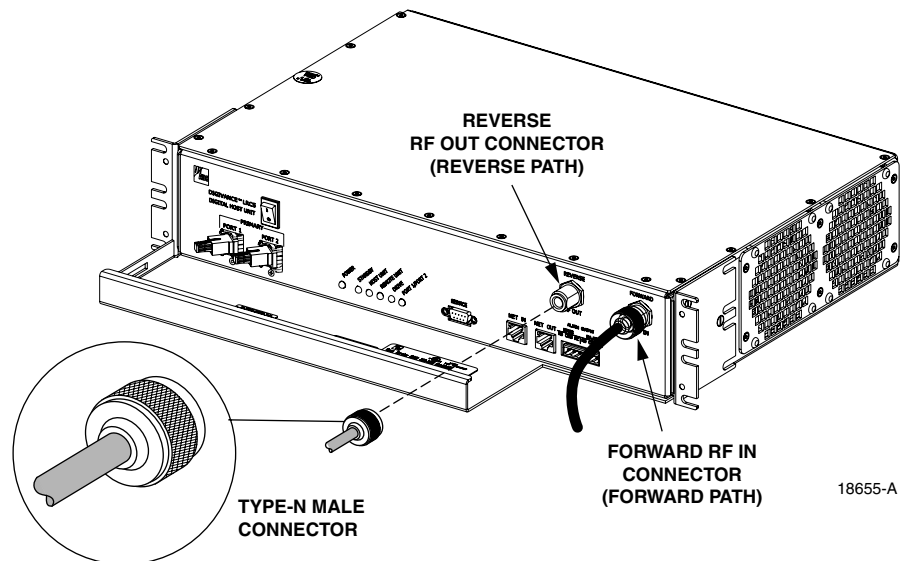

Figure 3-8. Forward and Reverse Path Coaxial Cable Connections
4. Connect the forward path cable to the **FORWARD RF IN** connector on the HU front panel as shown in Figure 3-8.
5. Connect the reverse path cable to the **REVERSE RF OUT** connector on the HU front panel (see Figure 3-8).